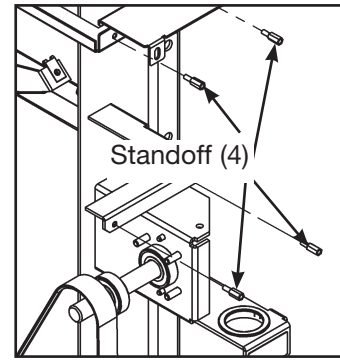

Figure 12
- A. Attach the four standoffs as shown in Figure 12.